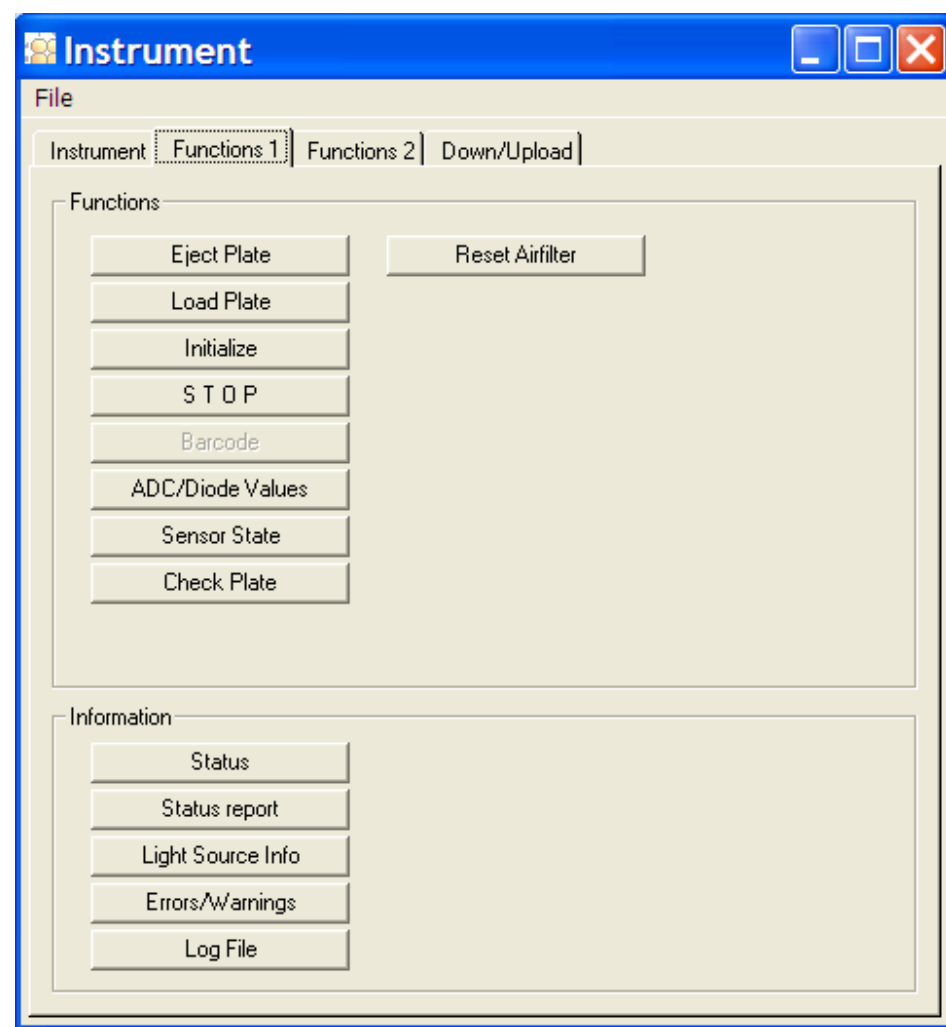

Figure 4-1: Instrument – Functions 1
1. From the Setup menu, choose **Instrument**. Instrument appears (Figure 4-1).
2. Choose the desired Functions tab to display: **Functions 1** or **Functions 2**. The selected tab is displayed (Figure 4-1).
Functions 1 tab is divided into two sections: Functions and Information (Figure 4-1). The Functions tabs control several common instrument operations. Information displays information about the connected instrument.
➔ Operations available depend on the instrument being controlled by the ADAP software and the access level of the user currently logged into the software. For example, Figure 4-1 shows operations for the Zenyth 340 microplate reader available to a user with User Level 3 (system administrator) access.